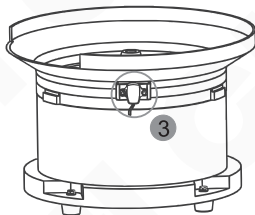

Fig. 2.3.3
- Method 3: weld a bracket on the vibrator and fix the vibration sensor on the bracket. As shown in Fig. 2.3.3